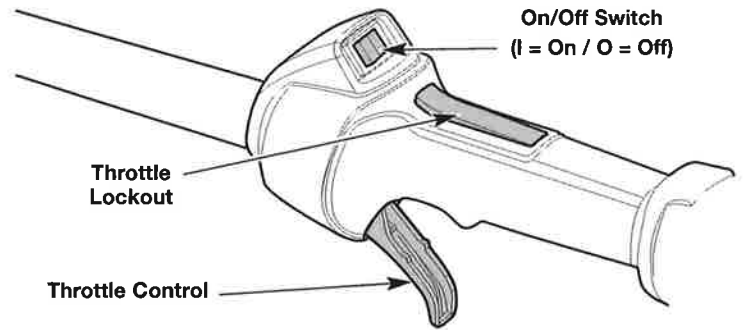

Fig. 7
NOTE: **DO NOT** squeeze the throttle control until step 8 (Fig. 7).
8. Press and hold the throttle lockout (Fig. 7). Squeeze the throttle control as needed for operation (Fig. 7).
2. Press and hold the On/Off switch in the **Off (O)** position until the engine comes to a complete stop (Fig. 7).